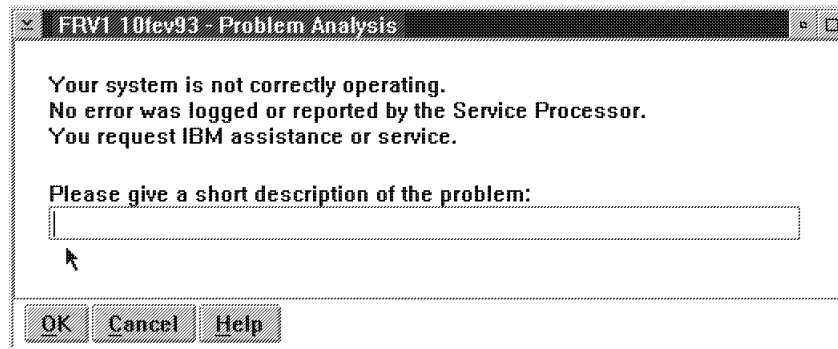

Figure 2-70. Link to RETAIN
4. ____ See Figure 2-70, enter a **short description** "Installing the 3746-900 and testing the RSF link", then click on **"OK"**.